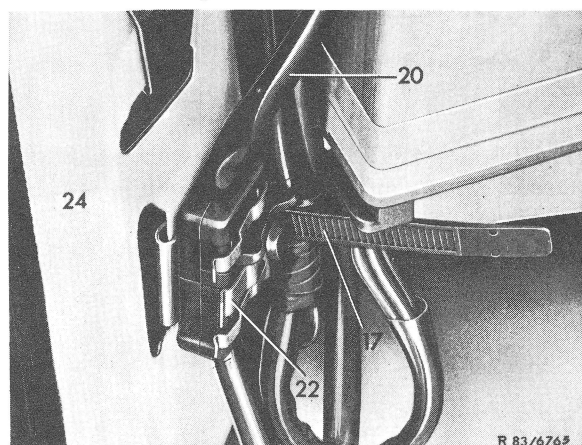

Figure 1
- 2 Pull double coupling on reinforcement (24) front right in engine compartment from clamp (22) and loosen plug connection (Fig. 1).
- 3 Expose line assembly (20) up to supplementary fan (4) while opening cable band (17) (Fig. 1 and 2).
- 4 Unscrew both fastening clips (14) at left and right on supplementary fan and remove supplementary fan.
- 5 Screw supplementary fan with two fastening clips (14) and combination screws (15) to struts (13).
- 6 Attach line assembly with cable band (17) to right-hand strut (13) and to reinforcement front.
- 7 Connect double plug of supplementary fan with double coupling of line assembly and mount with clamp (22) as shown in Fig. 1.
- 8 Check supplementary fan for performance by shorting the two flat plugs on temperature switch (3). Observe direction of rotation of fan.